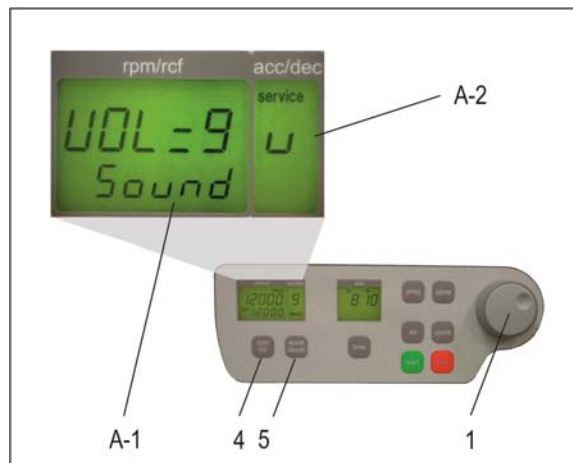

Figure 6
Proceed as described under point 1.8.2 to enter this program mode and then press the key „accel/decel“ (5). In the display „accel/decel“ (A-2) flashes the word „service“. Now select the letter „U“ with the adjusting knob (1). As a result appear in the display „rpm/rcf“ (A-1) the words „Vol=0- 9/Sound“. After pressing the key „rpm/rcf“ (4), you can adjust the desired volume between 0 (low) and 9 (loud) with the adjusting knob (1) (see figure 6).